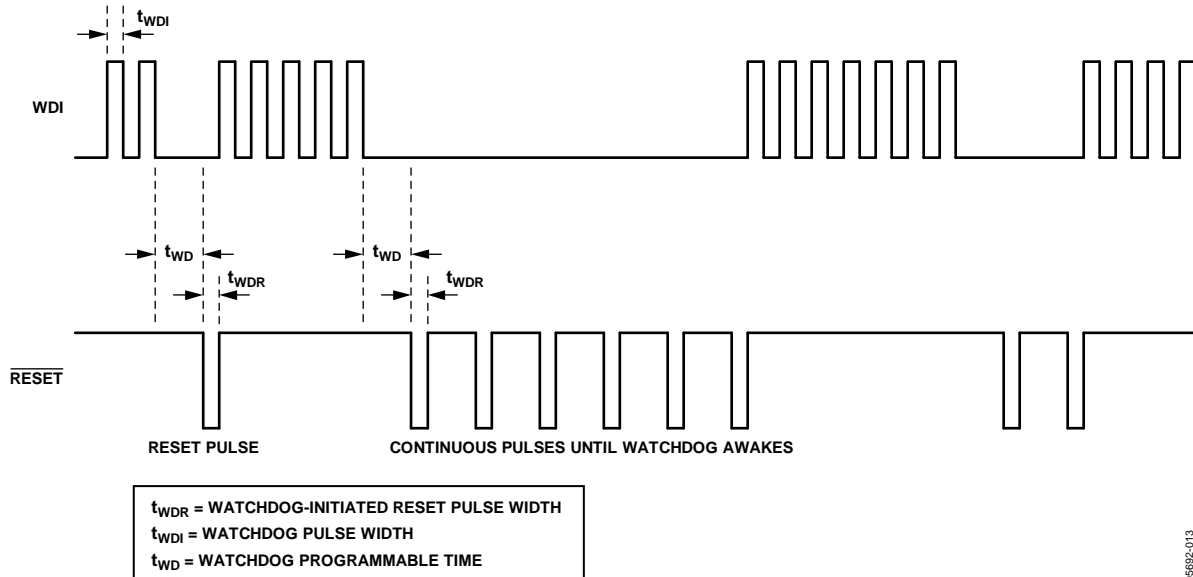

Figure 13. Standard Watchdog—Pulsing Reset Until Watchdog Awakes
In the default standard watchdog mode, if WDI remains either high or low for longer than the timeout period,  $t_{WD}$ , a  $\overline{RESET}$  pulse is generated in an attempt to allow the system processor to reestablish the WDI signal. The  $\overline{RESET}$  pulses continue indefinitely until a valid watchdog signal, a rising or falling edge signal at the WDI, is received. The internal watchdog timer clears whenever a reset is asserted. The standard WDI and  $\overline{RESET}$  timing diagrams are shown in Figure 13.
- When the external monitoring processor cannot issue the necessary WDI signal (see Figure 13 and Figure 14)